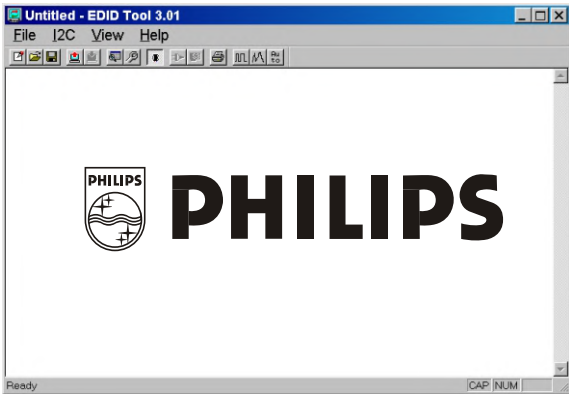
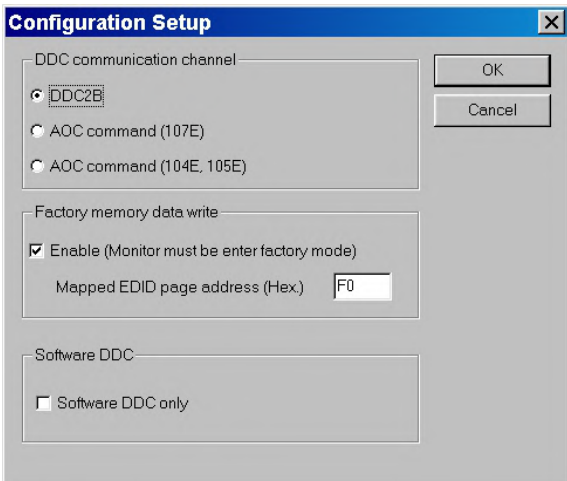

Fig. 11
Fig. 12
- 1-2 Click icon as shown in Fig. 11 from the tool bar to bring up the "Configuration Setup" windows as shown in Fig. 12.
2. Select the DDC2B as the communication channel. Select "Enable" & fill out "F0" for Mapped EDID page address as shown in Fig. 12.